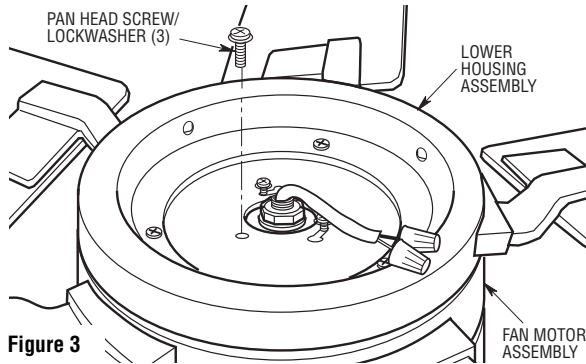

Figure 3
- 4. Remove and retain one of the three pan head screw/lockwashers from the fan motor assembly (Figure 3); loosen the other two pan head screws three or four turns. Position the lower housing assembly on the fan motor assembly so that the two screws mate with the two keyhole slots in the lower housing assembly (Figure 3).
- 5. Turn the lower housing assembly clockwise and tighten both screws (Figure 3). Reinstall the previously removed pan head screw/lockwasher in the remaining hole in the lower housing assembly.